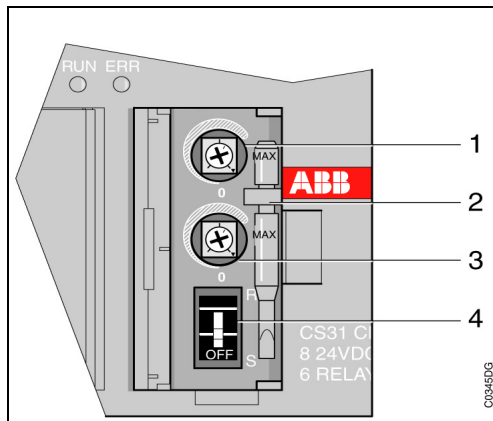

Figure 3-2 : Enlargement of item 9 without the cover
Enlargement of item 9 (see Figure 3-2)